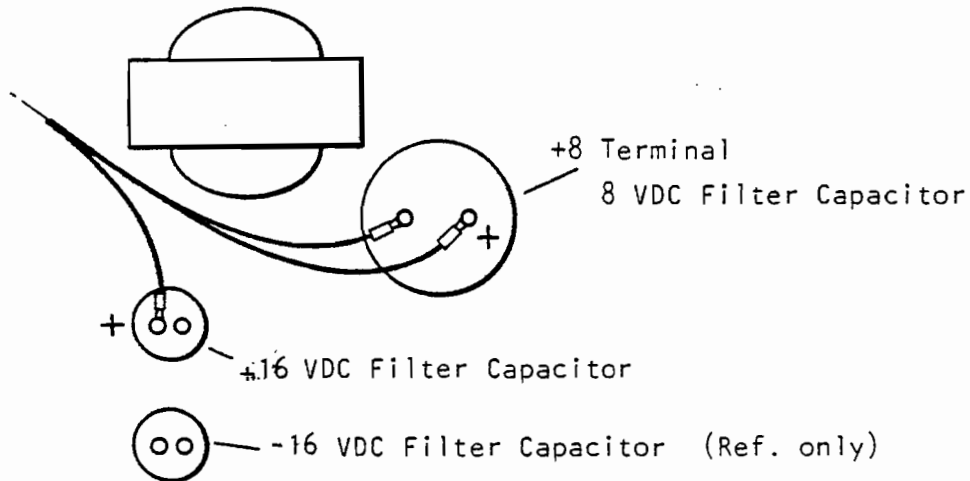

FIGURE 3
3. Connect the power terminal lug marked +8V to the +9V terminal on the large filter capacitor (see Figure 3). Verify all of the other terminal lugs are in place and tightened securely.
4. In a likewise manner connect the terminal lugs marked +16V and GND to their respective connection points as shown in Figure 3.